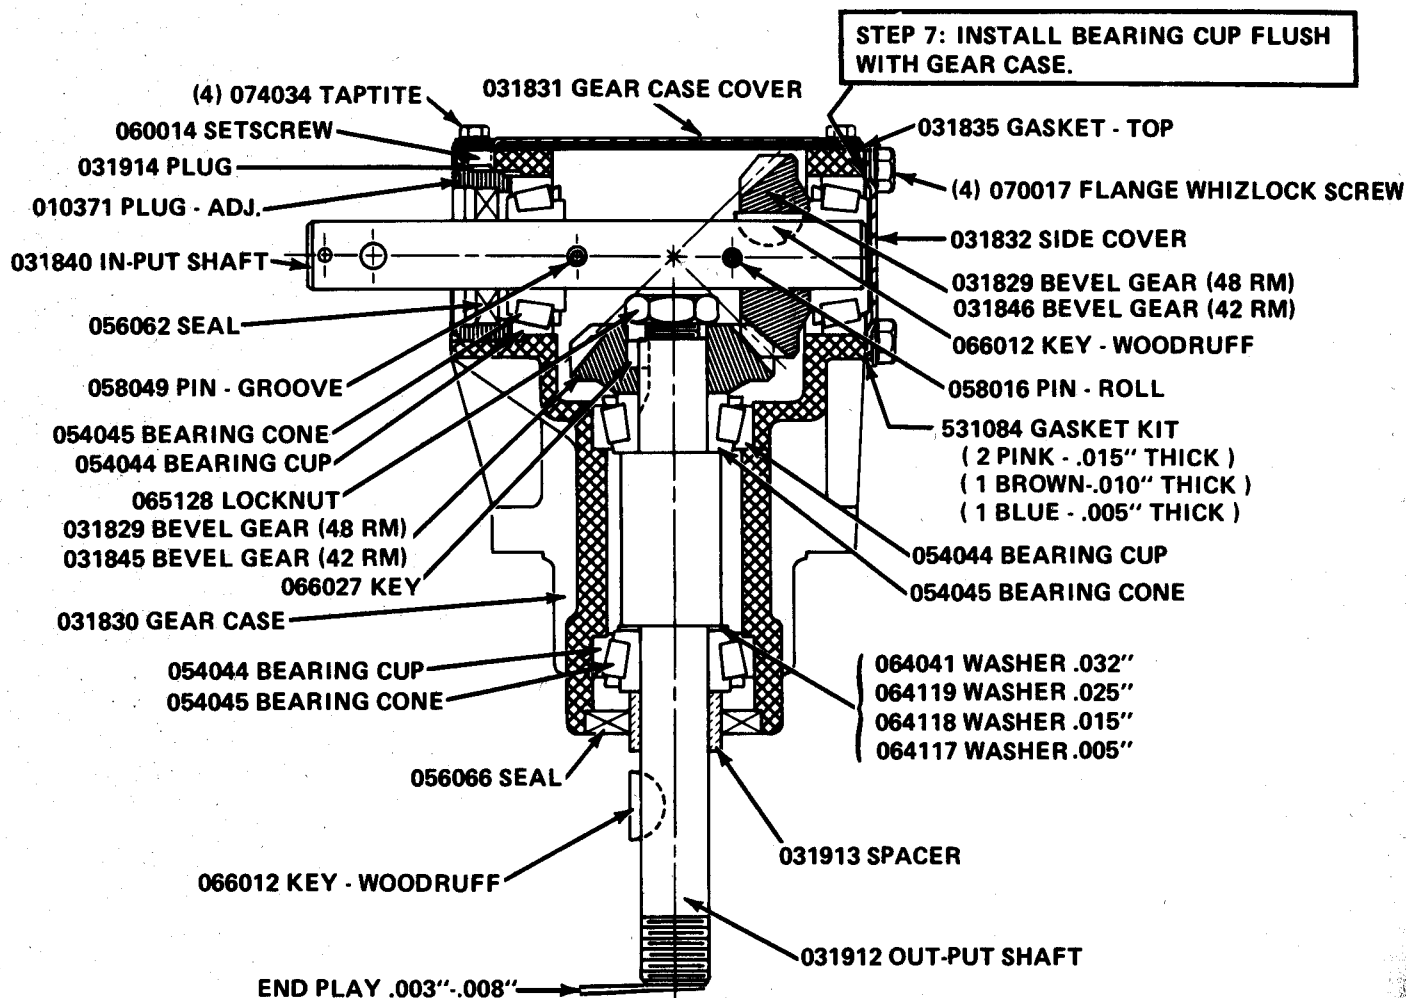

FIGURE 1
Once the correct end play is determined, remove output shaft and pack bearing cones with Ariens #150 Grease. Reassemble, packing lower cavity with grease, as shown in Figure 1, using washers selected to give the correct end play. Add the 56066 Seal, 31913 Spacer and 66012 Key.
7. Press 54044 Bearing Cup in **flush** with end of gear case as shown in Figure 1.